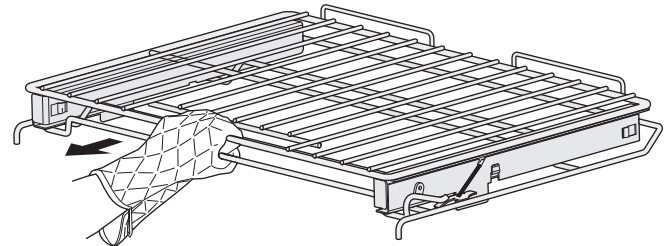

Figure 12: Removing the oven glide rack
2. while holding up the release lever, pull the glide rack out of the oven until the stop position is reached (See Figure 12).